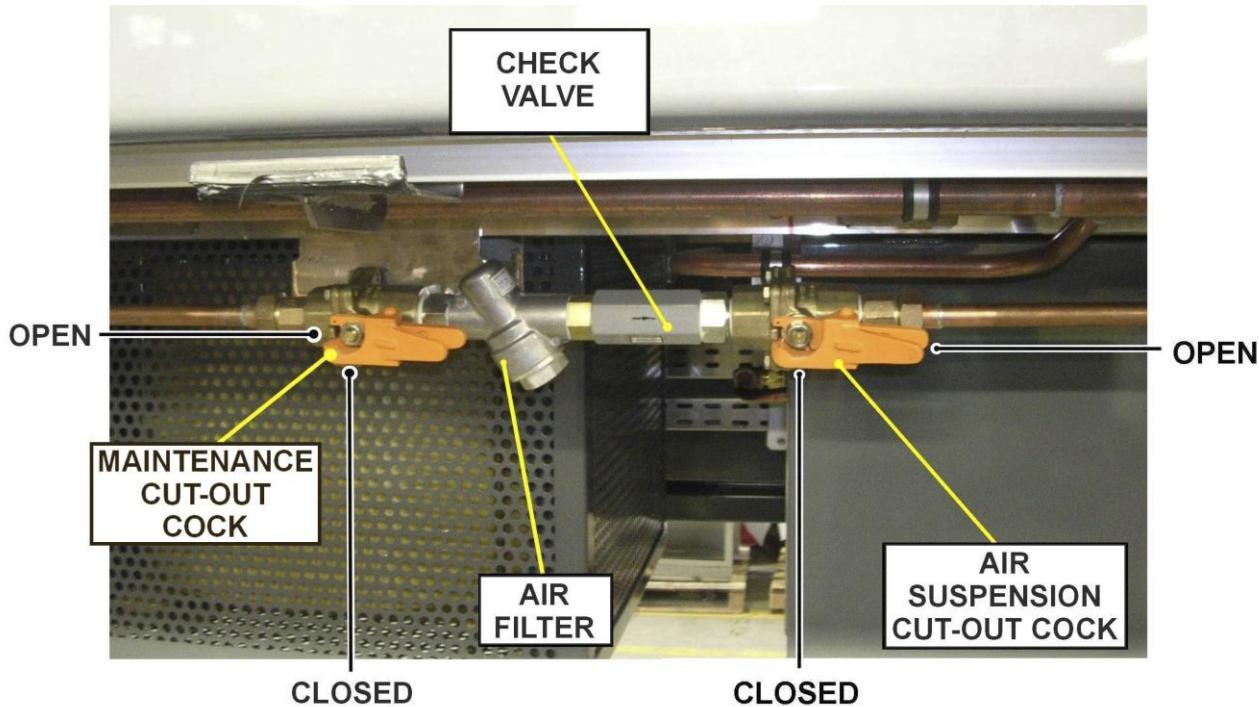

Figure 1 - SUSPENSION MAINTENANCE CUTOUT COCK
7. Pressurize Air Piping by opening Air Suspension Cut Out Cock (Refer to Figure 1).